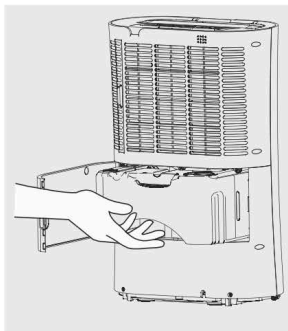

Fig. 2
2. Open the water tank door (8) and firmly but gently remove the tank from the case (Fig. 2).